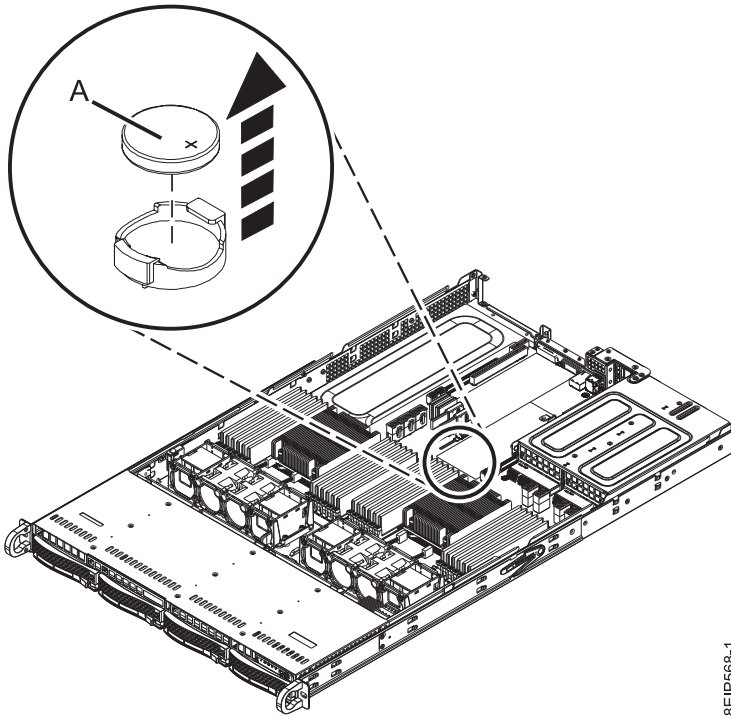

Figure 75. Time-of-day battery location
3. Remove the time-of-day battery (**A**) as shown in Figure 75 on page 64. When you remove the battery, do not use a metallic tool to disengage it from its slot.